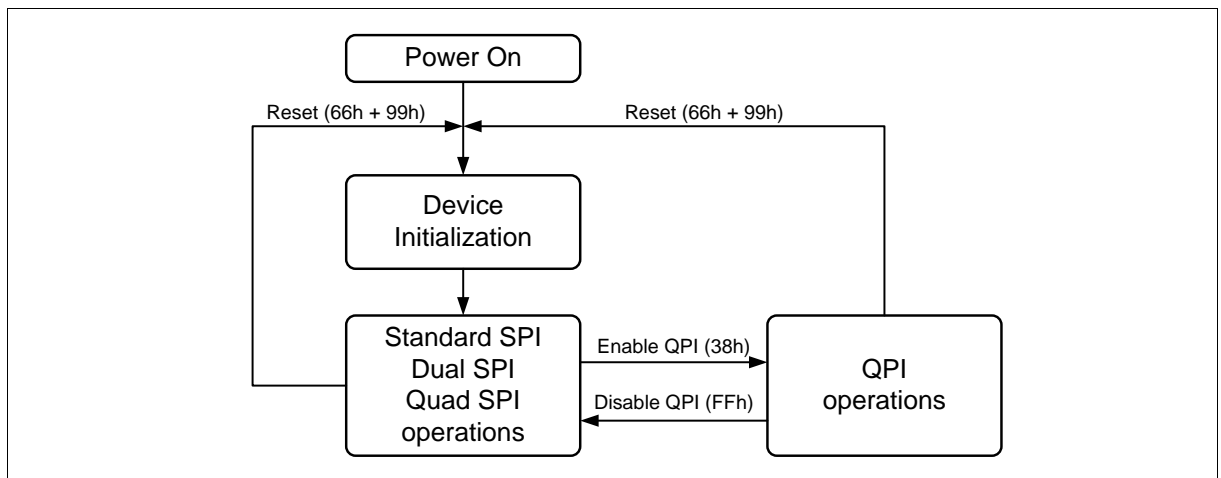

Figure 2 FM25Q08B Serial Flash Memory Operation Diagram
The FM25Q08B supports Quad Peripheral Interface (QPI) operations only when the device is switched from Standard/Dual/Quad SPI mode to QPI mode using the “Enable QPI (38h)” instruction. The typical SPI protocol requires that the byte-long instruction code being shifted into the device only via DI pin in eight serial clocks. The QPI mode utilizes all four DQ pins to input the instruction code, thus only two serial clocks are required. This can significantly reduce the SPI instruction overhead and improve system performance in an XIP environment. Standard/Dual/Quad SPI mode and QPI mode are exclusive. Only one mode can be active at any given time. “Enable QPI (38h)” and “Disable QPI (FFh)” instructions are used to switch between these two modes. Upon power-up or after a software reset using “Reset (99h)” instruction, the default state of the device is Standard/Dual/Quad SPI mode. To enable QPI mode, the non-volatile Quad Enable bit (QE) in Status Register-2 is required to be set. When using QPI instructions, the DI and DO pins become bidirectional DQ_0 and DQ_1 , and the WP# and HOLD# pins become DQ_2 and DQ_3 respectively. See Figure 2 for the device operation modes.